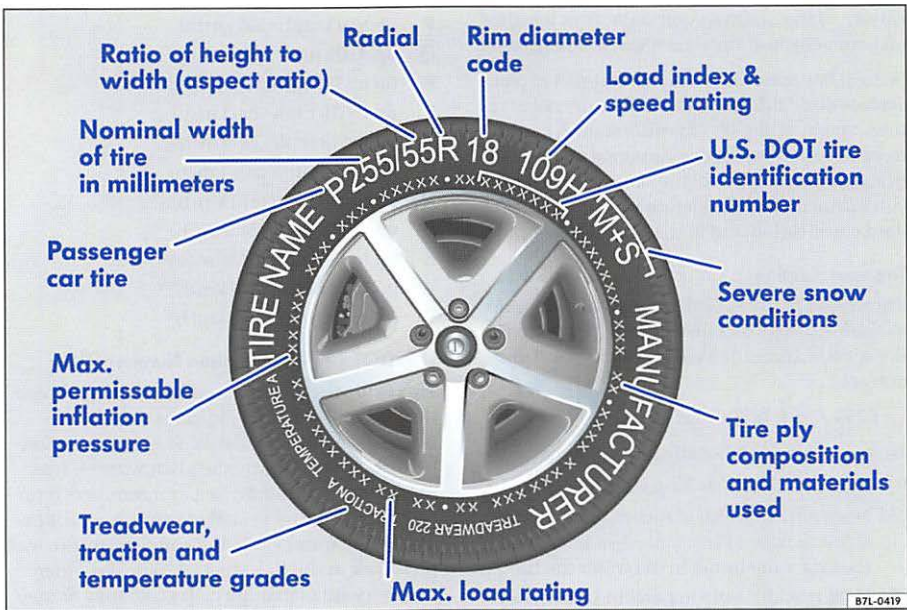

Fig. 16 Tire specification codes on the sidewall of a tire
- Check the tire sidewall (⇒page 61, fig. 16) to determine the designated load rating for a specific tire. ◀
Federal law requires tire manufacturers to place standardized information on the sidewall of all tires ⇒page 61, fig. 16. This information identifies and describes the fundamental characteristics, the quality grade of the tire and also provides a tire identification number for safety standard certification and in case of a recall.
Quality grades can be found where applicable on the tire side wall between tread shoulder and maximum section width ⇒ page 61, fig. 16.